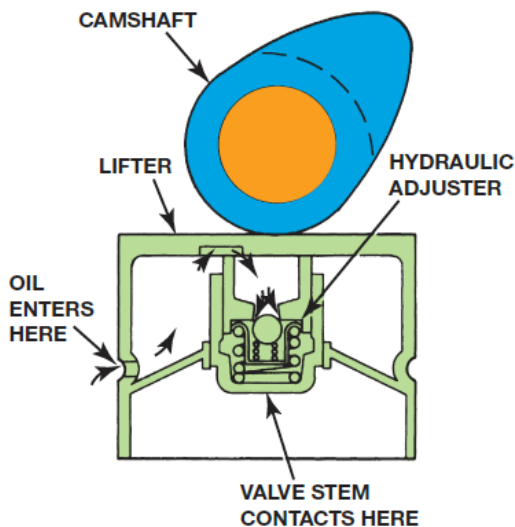

Figure 18. Hydraulic lifter on an overhead cam engine.
- The other involves a lifter with an automatic hydraulic adjustment built into the lifter body, called a hydraulic valve lifter. Fig 18.